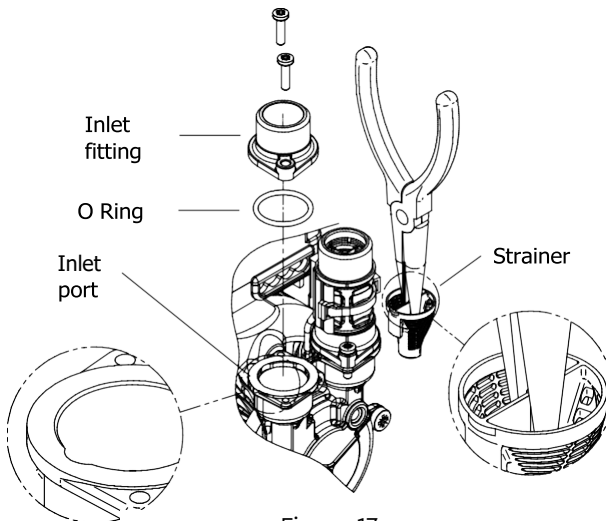

Figure 17
4. Remove M4 screws (2 off) from inlet assembly, lift brass inlet fitting (with 'O'-ring) away from pump casing (Figure 17).